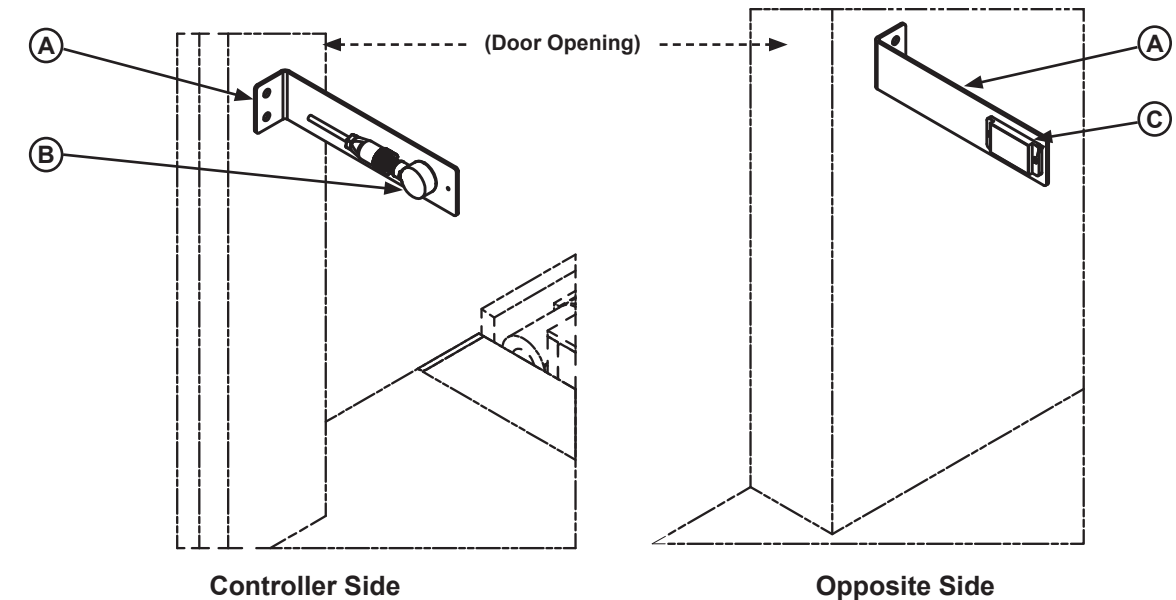

Figure 1
2. Choose a mounting location for the brackets (A) that will not interfere with the door track and provides an obstructed path between the sensor (B) and its reflector (C). See Figures 1 and 2.
7. Then install the sensor on the bracket beneath the iDock controller (D). Position the sensor so that its connector is parallel with the bracket and pointing toward the wall. See Figure 1.